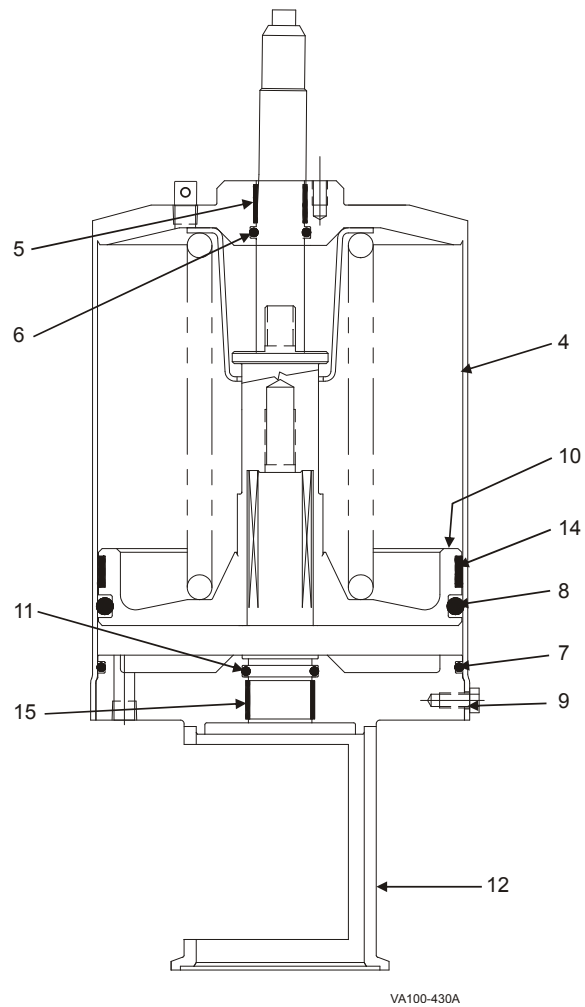

Figure 23 - Actuator Assembly (Non-Seat Lift Valve)
1. For non-seat lifting valves, remove the cap screws (Figure 23, item 9) and remove the yoke (item 12) from the cylinder assembly. Set the yoke aside.
2. Pull the piston and spring assembly (Figure 23, item 10) from the cylinder assembly.
3. Inspect the four o-rings (Figure 23). Replace them if they are worn or damaged.
4. Inspect the three bearings (Figure 23). If the bearing does not extend slightly above the edge of the metal surface, replace the bearing.
6. For non-seat lifting valves, assemble the stack components as shown in Figure 23. Install the yoke and cap screws.